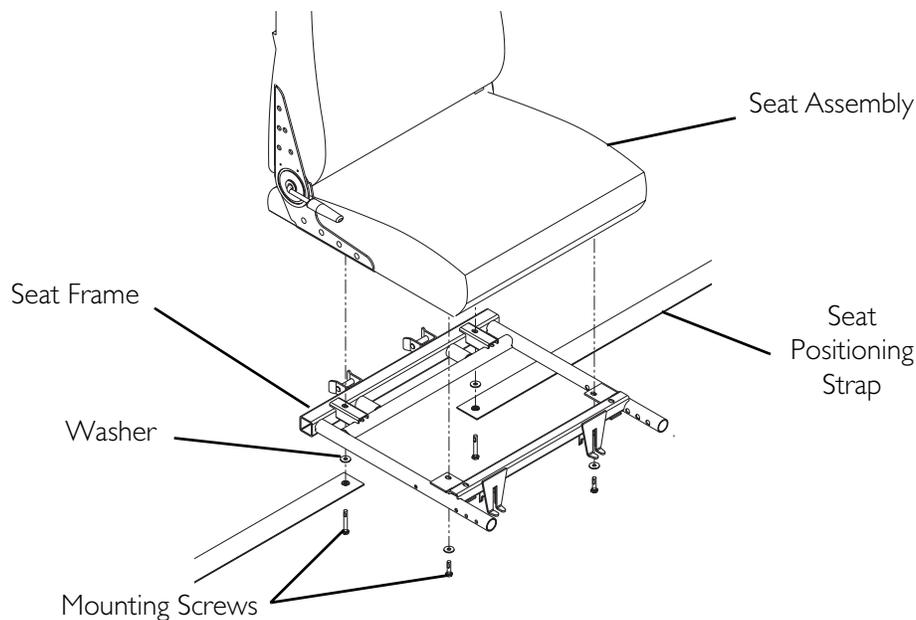
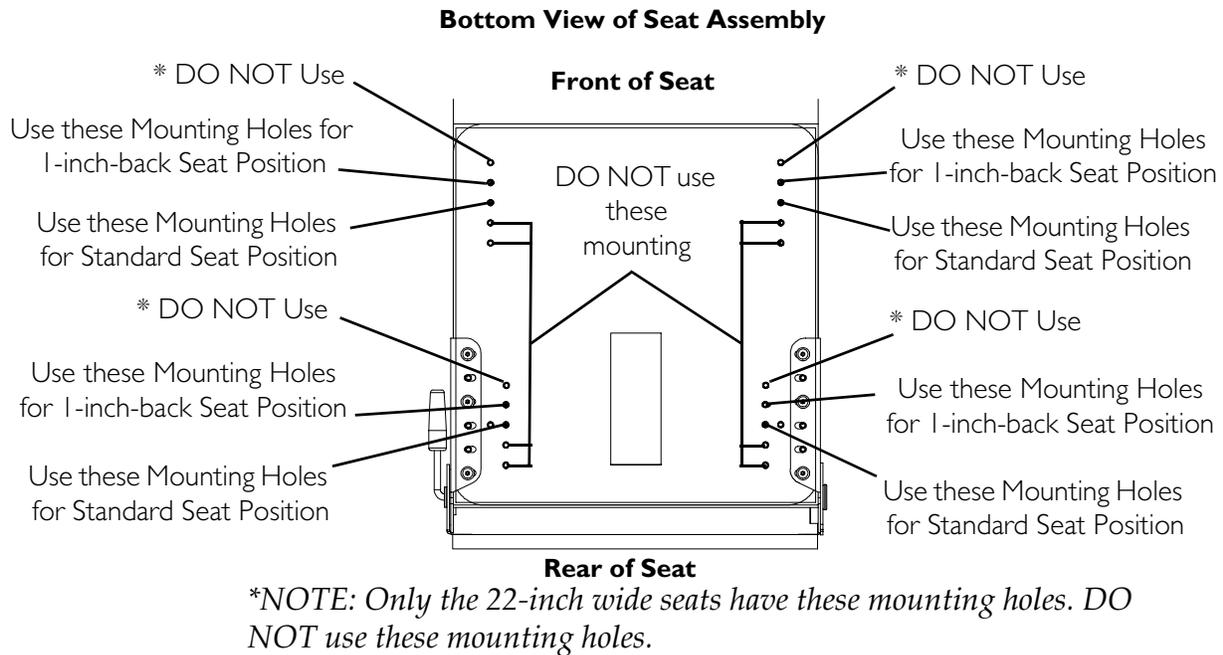

FIGURE 7.6 Adjusting Seat Position on Seat Frame
FIGURE 7.7 Adjusting Seat Position on Seat Frame
NOTE: For this procedure, refer to FIGURE 7.6 and FIGURE 7.7.
2. Remove the four mounting screws and washers securing the seat assembly to the seat frame (FIGURE 7.6).
4. Refer to FIGURE 7.7 to determine the correct mounting holes to achieve the desired seat position.